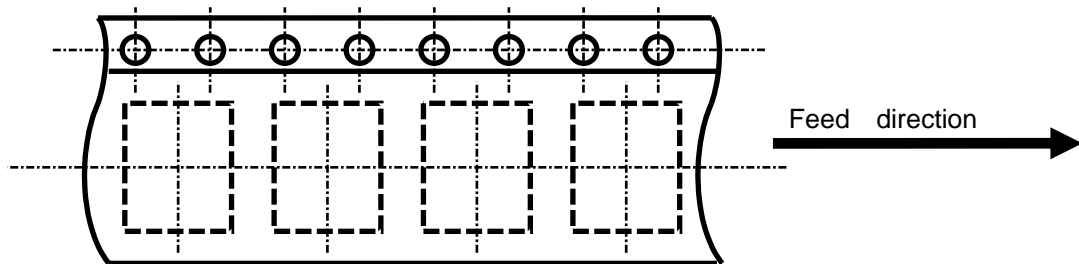

Fig2
- 6.2. Taping direction ..... Dwg. No.F-362.022 and Fig.2